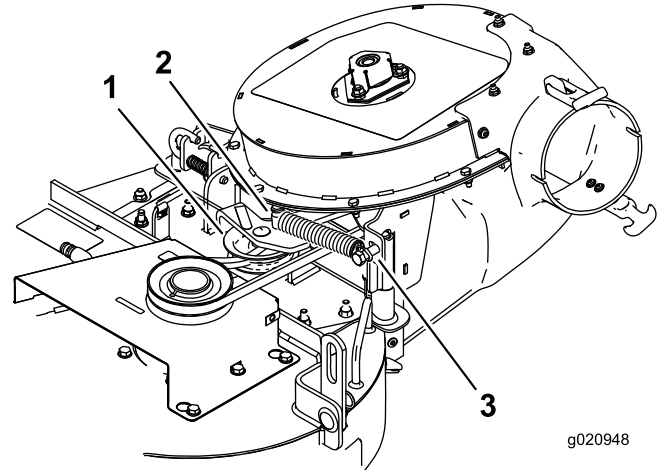

Figure 29
11. Install the spring onto the idler pulley post (Figure 29).
12. Stretch and install the spring onto the shoulder bolt (Figure 29).